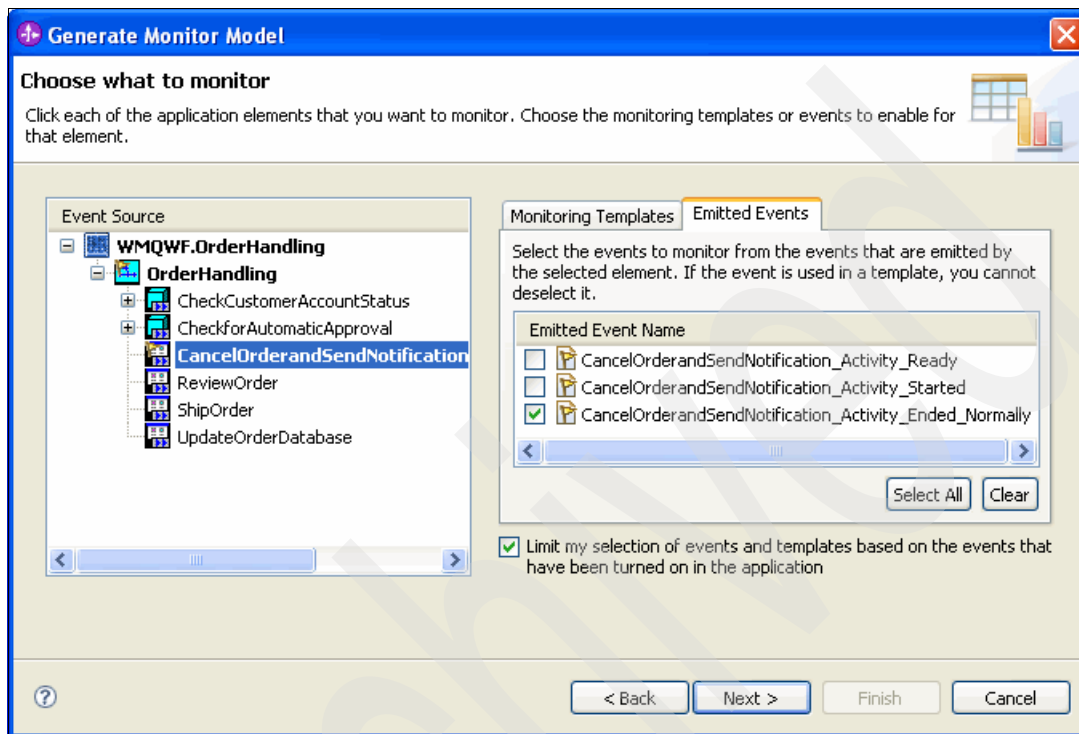

Figure 8-51 Choosing the emitted event for the *CancelOrderandSendNotification* activity
- d. Under Event Source, click **CancelOrderandSendNotification**. Click the **Emitted Events** tab. Select **CancelOrderandSendNotification_Activity_Ended_Normally**. See Figure 8-51.